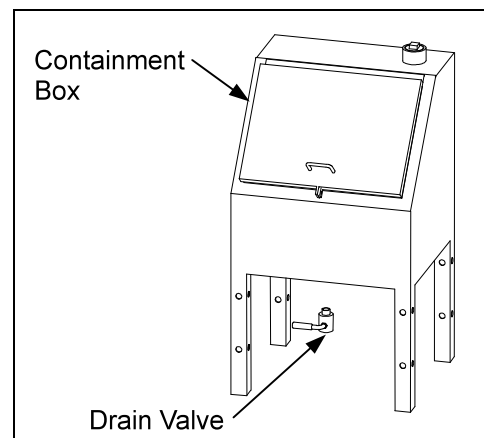

Figure 1
1. Install the drain valve by threading it into the bottom of the containment box. (See Figure 1.)